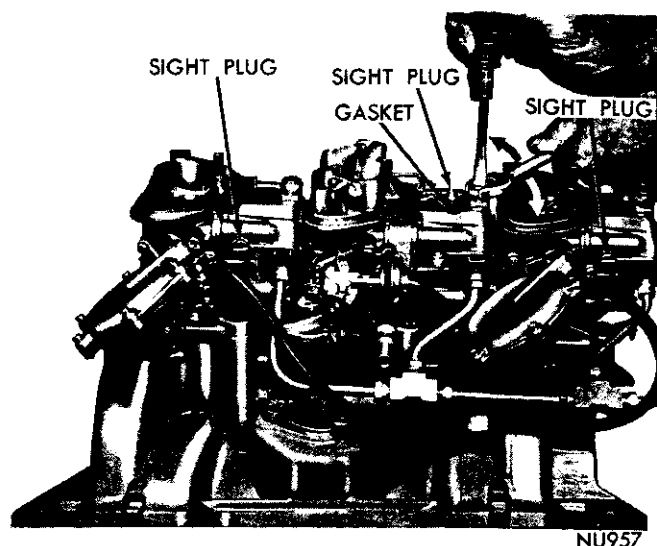

Fig. 31—Adjusting Fuel Level (On Vehicle)
(1) To check fuel level in bowl, start engine and then remove sight plug from fuel bowl (Fig. 31).
(2) Using a wrench and screwdriver, turn adjusting nut either **up** or **down** until fuel just dribbles out of sight hole (Fig. 31).
(3) Reinstall sight plug and gasket and tighten securely. Check other fuel bowls in the same manner. **CAUTION:** It is suggested that a suitable precaution be taken by placing a shop towel or a container under the bowl, to catch any fuel that might be liberated due to a high or improper previous setting.